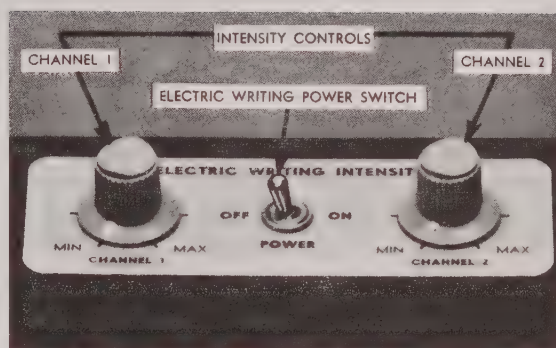

Fig. 1-3B "Meterite" Electric Writing Intensity Controls
The Thermotip Writing Controls are identical to the Electric Writing Controls shown in Figure 1-3B except for the name plate marking.
2.4.2 Controls on Rear of Top Deck (Models BSA-260B and BSA-270B only. (See Figure 1-3B.)